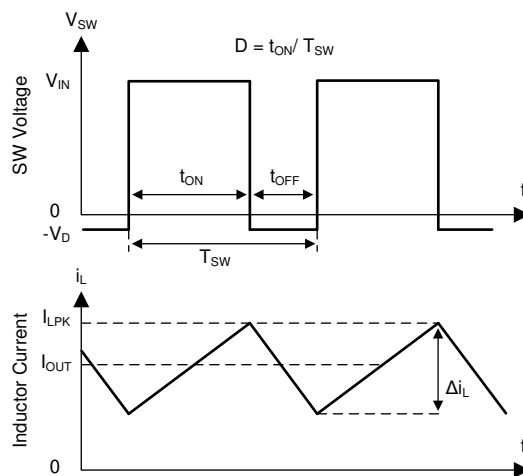

图 6. SW Node and Inductor Current Waveforms in Continuous Conduction Mode
The following operation description of the LM76005-Q1 refers to the Functional Block Diagram and to the waveforms in Figure 6. The LM76005-Q1 supplies a regulated output voltage by turning on the internal high-side (HS) and low-side (LS) NMOS switches with varying duty cycle (D). During high-side switch on-time, t_{ON} , the SW pin voltage V_{SW} swings up to approximately V_{IN} , and the inductor current, i_L , increases with linear slope. The HS switch is off by the control logic. During the HS switch off-time, t_{OFF} , the LS switch is turned on. Inductor current discharges through the LS switch, which forces the V_{SW} to swing below ground by the voltage drop across the LS switch. The regulator loop adjusts the duty cycle to maintain a constant output voltage. The control parameter of a buck converter is defined as duty cycle $D = t_{ON} / T_{SW}$. In an ideal buck converter, where losses are ignored, D is proportional to the output voltage and inversely proportional to the input voltage: $D = V_{OUT} / V_{IN}$.